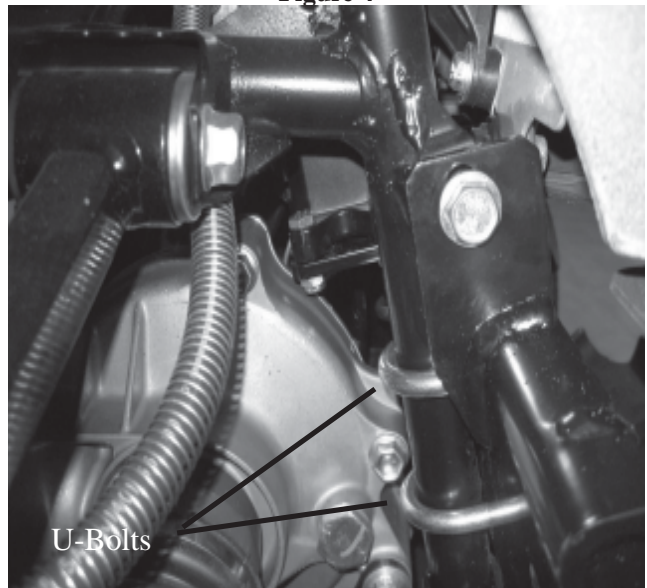

Figure 5
5. Center the mounting bracket between the top 2 mounting tabs. The front bumper assembly will have to fit between the mounting tabs on the frame tubes and the mounting tabs on the front plow mount bracket. Once the mounting bracket is centered place the 4, M8 u-bolts around the frame tubes and into the front plow mount bracket, see figures 5 and 6. Do not tighten the u-bolts at this time just snug them up. The bracket may need to be moved slightly to allow for the front bumper assembly to fit into position.